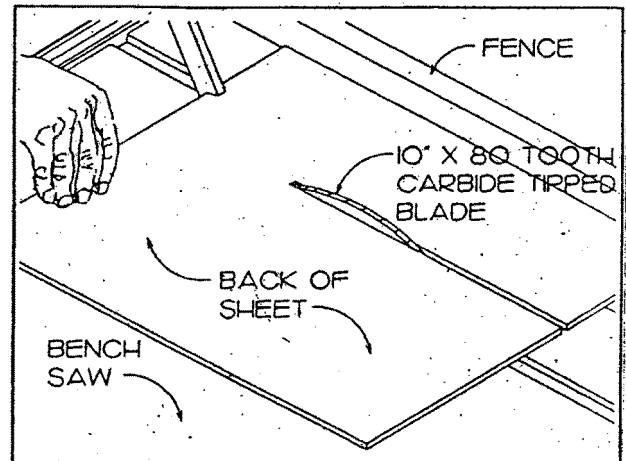

Figure 1
1. Use a saw with a circular carbide tip saw blade to cut the right size panels and strips. Cut sheets with the saw teeth entering onto the **back** of the *Imagicor!*. On almost all saws that means that the back of *Imagicor!* is up to protect the back from damage. See Figure 1.